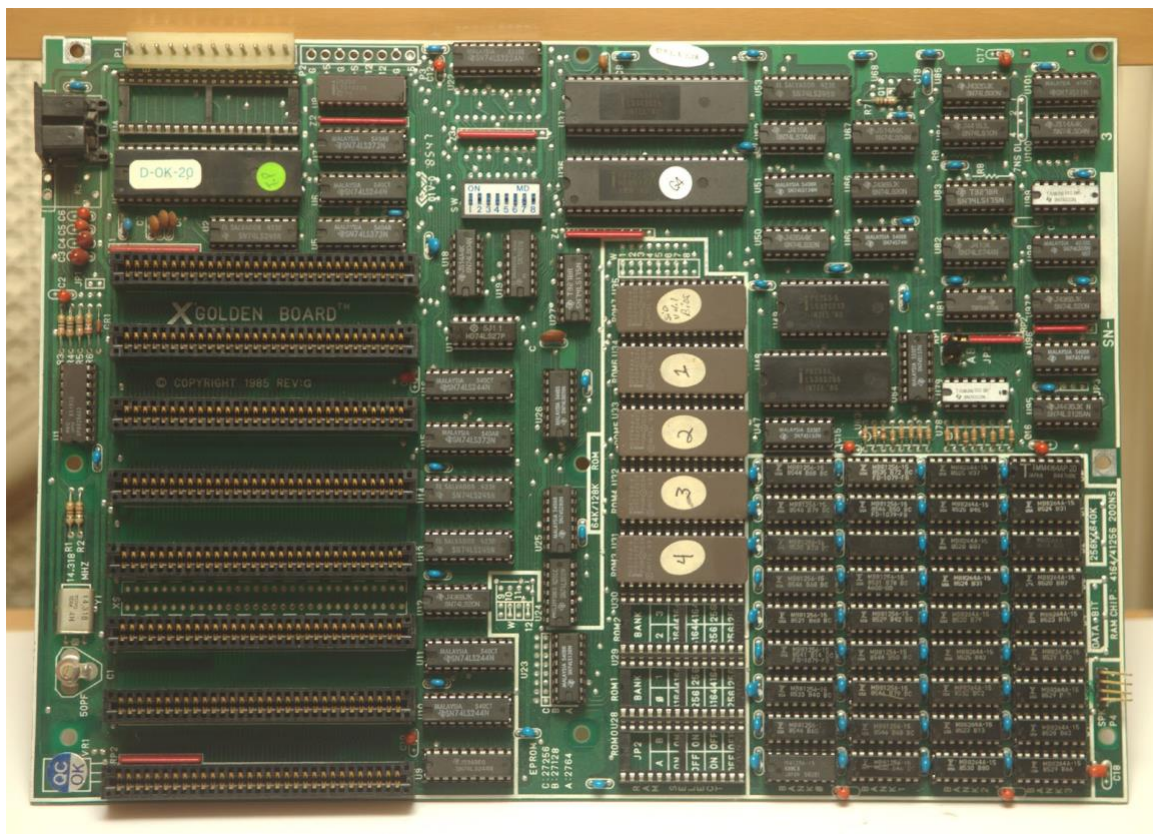

Figure 1. A 1980's motherboard.
Shown below (Figure 1) is a typical PC of the 1980's—a motherboard. All the chips have an easily identified function. There is one central processing unit (CPU), memory chips, and Input/Output (IO) chips. And, in all this hardware, there is software. This software is contained in the larger chips with round white labels on the top, which blocks ultraviolet (UV) light from erasing the software. The software on those chips is called *firmware*, since it is software that is still there even when power is turned off. Firmware is less “hard” than hardware, since it is changeable software, yet “harder” than software, since it is persistent when power is removed and reapplied. When this board was created, anyone could write software to go in those chips, because all the information and resources to do so were openly available.